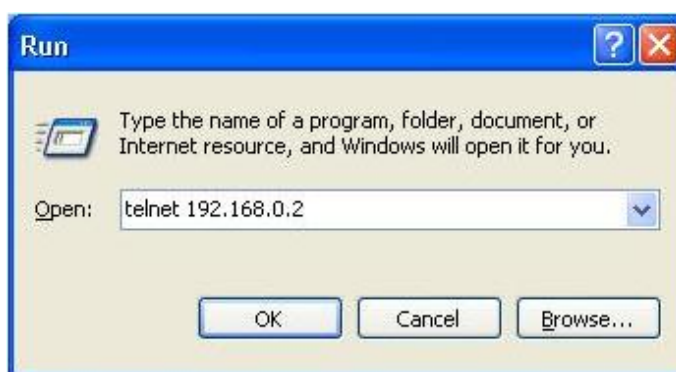

Figure 26 Access through Telnet
Step 2: Enter "telnet IP-address" in the Run dialog box, as shown in Figure 26. The default IP address of a Kyland switch is 192.168.0.2.